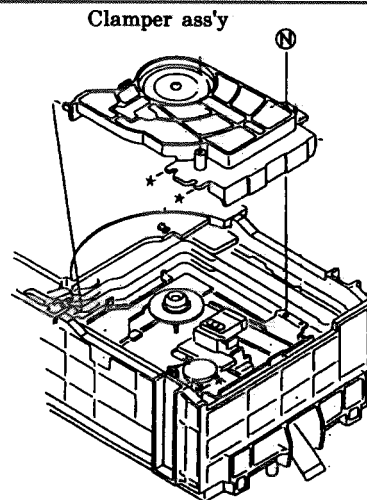

Fig.21
5. Remove a screw ④securing center of the clamperass'y. (See Fig. 21)